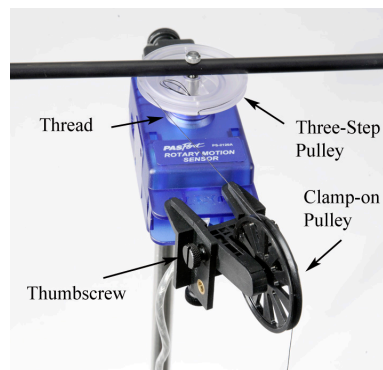

Figure 7: Adjusting Angle of Clamp-on Pulley
10. Clamp the black pulley onto the Rotary Motion Sensor as shown in Figure 7. Note how the pulley is clamped at an angle to match the tangent to the clear Three-step Pulley. It must also be adjusted vertically using the two thumbscrews, to match the height of the clear pulley being used. Each time you change to a different radius pulley, you will have to re-adjust both the angle and height.